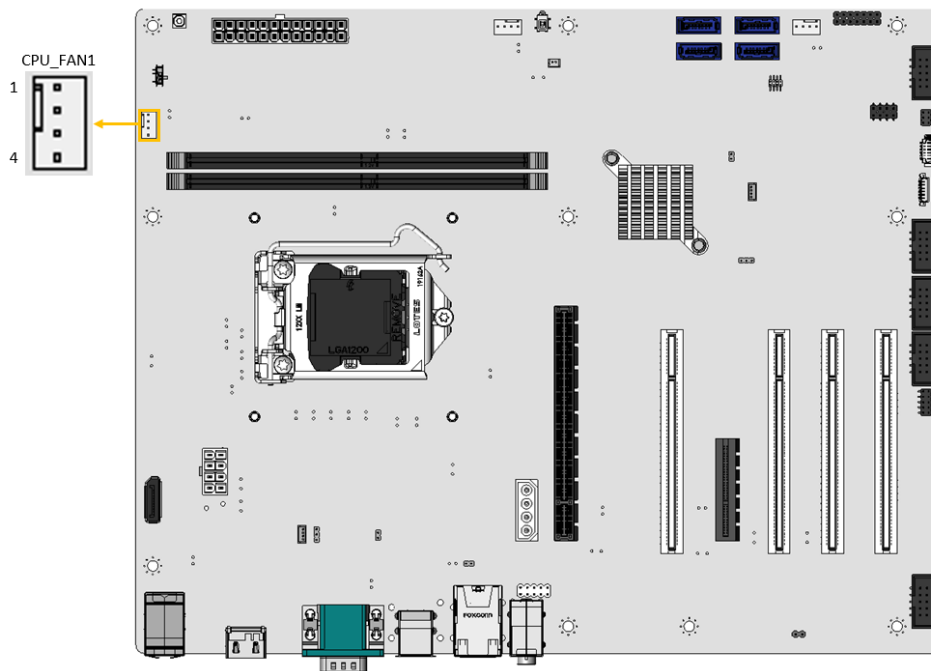

Figure 3-10: CPU Fan Connector Location
- CN Location:** See Figure 3-10